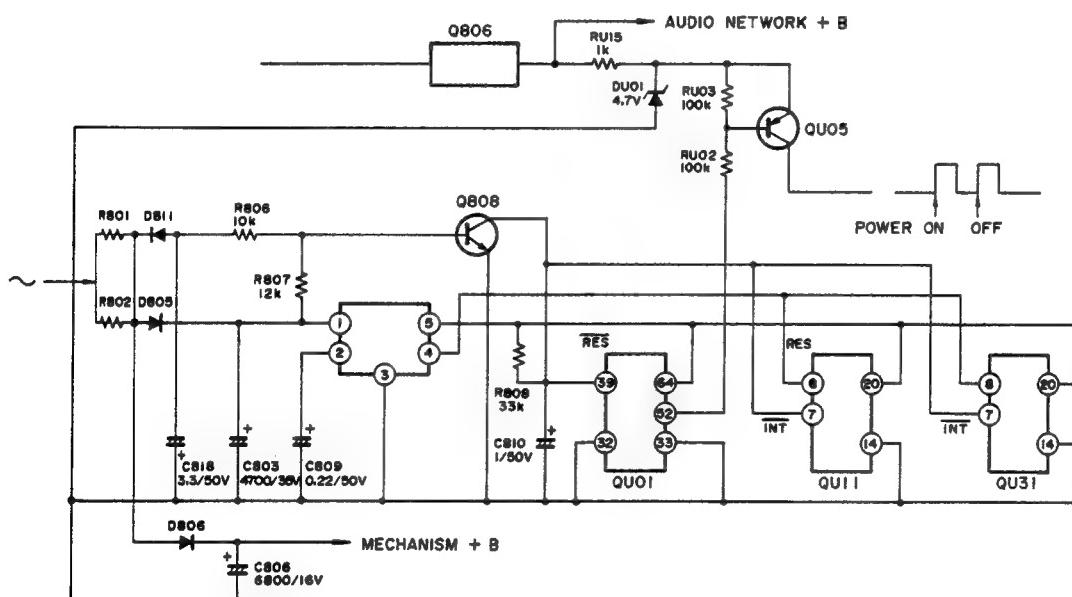
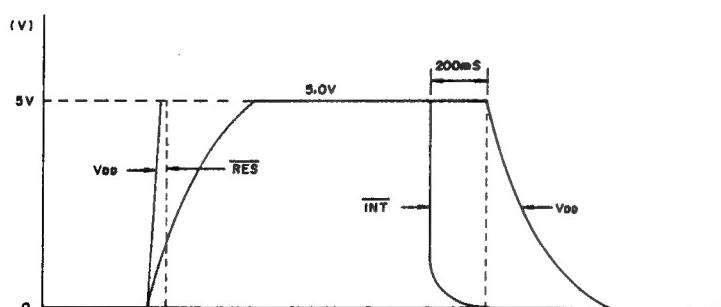

Figure 4
Figure 5
Figure 5 shows the leading and trailing characteristics of each VDD, INT and RES pin of the feature control microprocessor (QU01), mechanism control microprocessor (QU11, QU31), and figure 4 shows its diagram. Each timing is important for the normal function of the microprocessors.
- b) Check the rising characteristics of VDD, INT and RES. When they go high with the rising characteristics shown in Fig. 5, they are normal.
- ★ When operation (2) does not function:
- a) When the tape running direction indicator is not lit, check the display PC board and surrounding wiring, etc. When the indicator does not blink after four seconds with the tape loaded, check that QU11, QU31 pin ⑩ is low with the tape loaded. (When the power is turned on, the initial condition of the mechanism is transmitted to the feature microprocessor.)
- QU11, QU31 pin ⑩ is low when in reverse mode.
- ★ When operation (3) does not function: